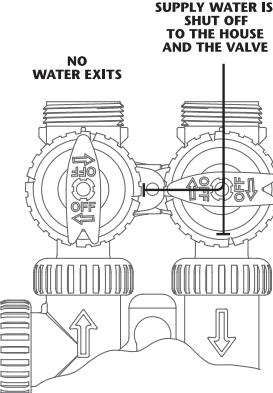

Figure 4
- SHUT OFF POSITION:** The inlet handle points to the center of the bypass valve and the outlet handle points away from the control valve. The water is shut off to the building. The water treatment system will depressurize upon opening a tap in the building. A negative pressure in the building combined with the softener being in regeneration could cause a siphoning of brine into the building. If water is available on the outlet side of the softener, it is an indication of water bypassing the system (**Fig. 4**) (i.e. a plumbing cross-connection somewhere in the building).